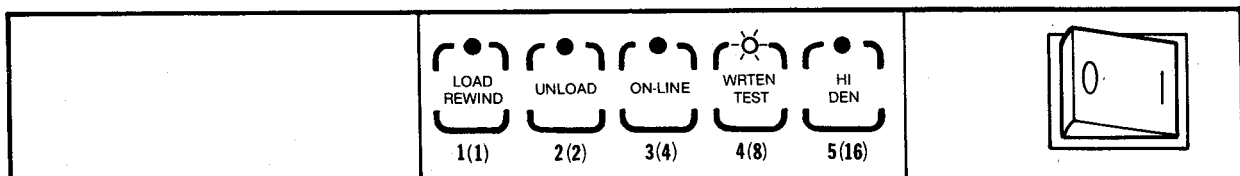

Figure 3-1. Front Panel Controls and Indicators (Diagnostic Mode)
3-3. The failure display is a binary number which results from the "ON" (1) and "OFF" (0) states of the LED's with the least significant bit being the LOAD indicator on the left and the most significant bit being the HI DEN indicator on the right. See Figure 3-1. For the first six tests, the display will be the number of the test that failed and the drive will be inhibited, preventing any further interaction. Refer to Table 3-1 for PUST failure codes 1 through 6. If after power is applied to the unit, all LED's remain lighted continuously for longer than 1 second, and the LED display does not match the level I displays in Table 3-1, a failure of the Z8002 is indicated and no further failure information is available.
3-11. Referring to Figure 3-1, which illustrates the controls of the CTU, the switch sequence for activating each service aid is as follows:
3-14. During some service aids, the front panel indicators provide output data relative to the service aid being performed. This data is displayed as a binary number with the LOAD indicator as the least significant bit (LSB) and the HI DEN indicator as the most significant bit (MSB). See Figure 3-1. Each Service Aid description includes information about output data, as appropriate.